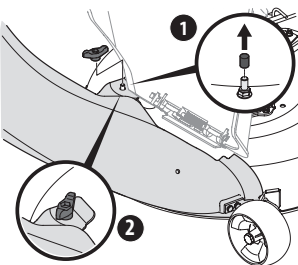

Figure 20
- Secure the bagger chute to the deck using a wing knob from cart collection support assembly 689-02019. See Figure 20.
NOTE: If present, remove the protective cap off of the mounting stud on the mowing deck as shown in the upper inset of Figure 20.